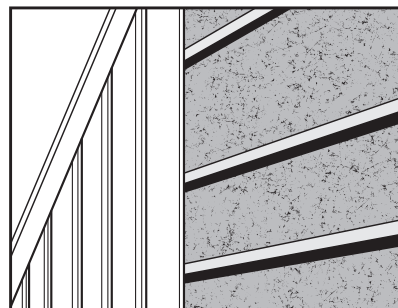

Figure 1.4
- Build out low areas with shims, wood lath, or wood furring strips. If using furring strips, make sure the strips run perpendicular to the siding, applied a maximum of 16" on center. (Figure 1.4)